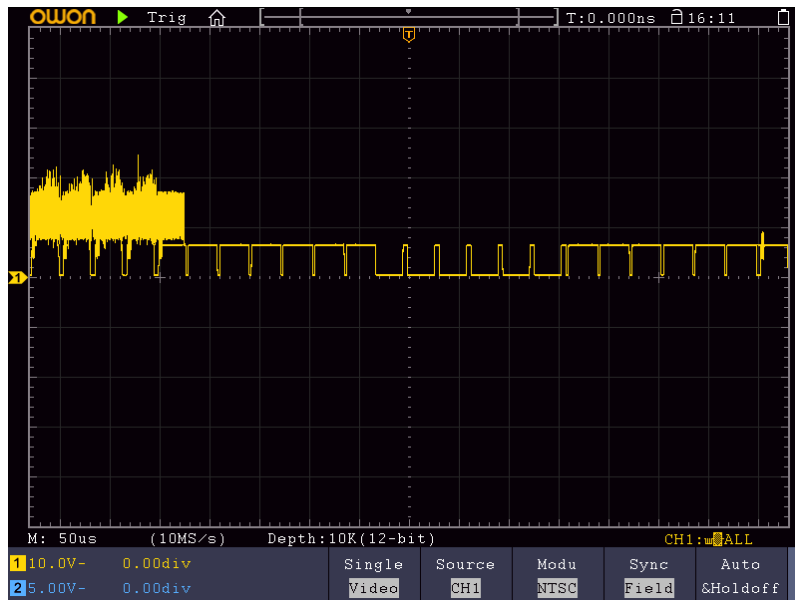

Figure 9-7 Waveform Captured from Video Field Trigger
- (1) Push the **Trigger Menu** button to display the trigger menu.
- (2) Select the first menu item in the bottom menu. Select **Single** in the right menu.
- (3) In the left menu, select **Video** as the mode.
- (4) Select **Source** in the bottom menu. Select **CH1** in the right menu.
- (5) Select **Modu** in the bottom menu. Select **NTSC** in the right menu.
- (6) Select **Sync** in the bottom menu. Select **Field** in the right menu.
- (7) Turn the **Vertical Scale**, **Vertical Position** and **Horizontal Scale** knobs to obtain a proper waveform display (see *Figure 9-7*).